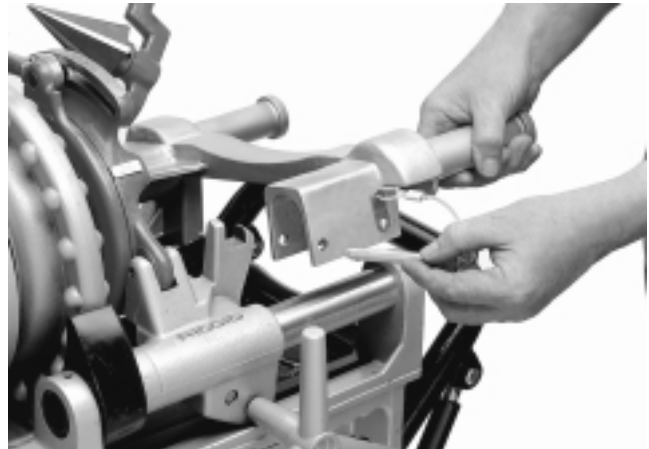

Figure 19 – Locking Pin On 916 Roll Groover Adapter Bracket
4. Attach adapter bracket to 300 Compact by placing C-shaped section of bracket on rear rail (opposite operator) and bringing operator side of bracket down onto operator side rail. Center section of bracket will cover 300 Compact front rail supports (Figure 19).